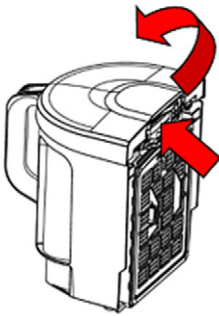

Fig. 14
- 1) As in **Fig.14**, press the outlet lock to open the outlet board.